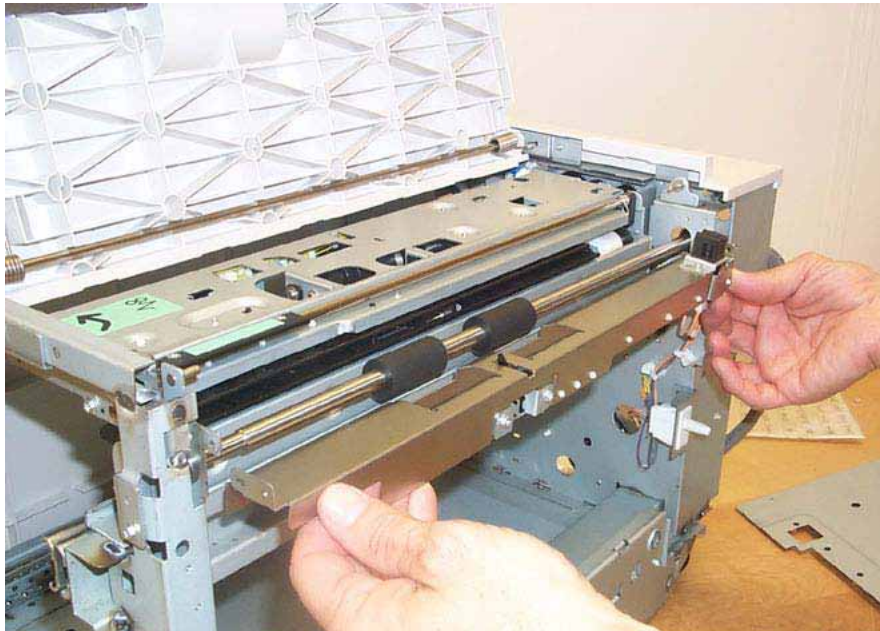

Figure 1 Removing the Lower Chute
- Remove the (2) securing screws.
- Remove the (4) securing screws.
- Disconnect the electrical Connector (1)
8. Remove the Lower Chute. Figure 1